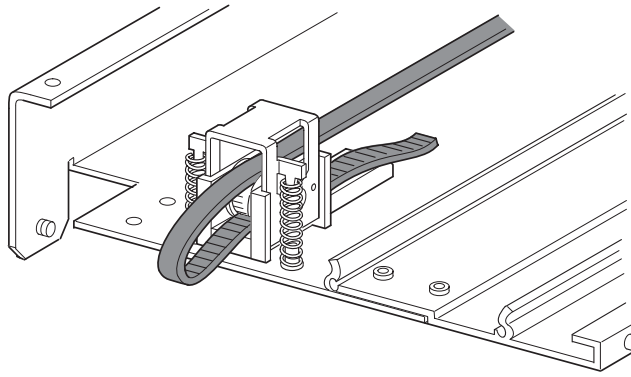
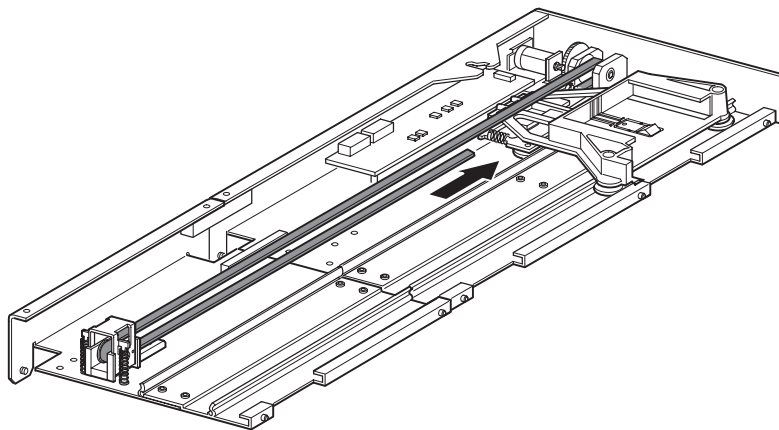

Figure 77. Timing belt installation base section
Figure 78. Timing belt installation
14. Thread the timing belt counter-clockwise through the top of the tensioner ramp/idler pulley and clockwise through the motor drive pulley as shown in Figure 77 on page 81 and Figure 78 on page 81.